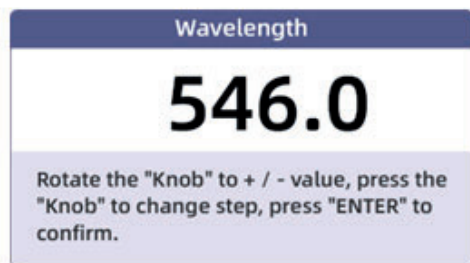

Fig. 6-4 Set the measurement wavelength
- Press the knob to pop up the setting interface (Figure 6-4), rotate the knob to change the measurement wavelength, press “**ENTER**” to confirm;